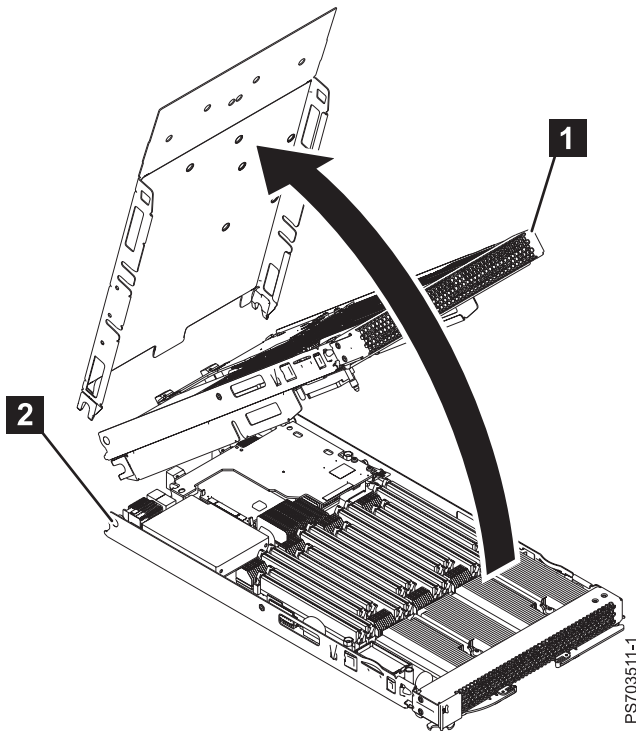

Figure 14. Removing the expansion unit
- Pivot the expansion unit (**1** in Figure 14) up on the cover pins of the base unit (**2**).
- Lift the expansion unit (**1** in Figure 14) from the blade-server base unit and lay it on a flat, static-protective surface.